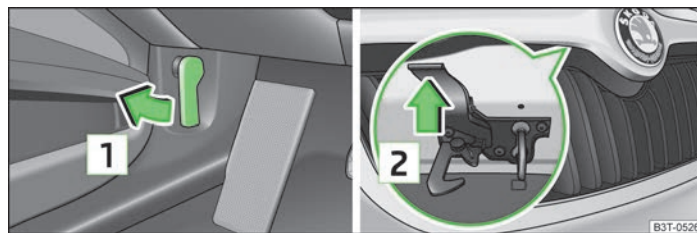

Fig. 156 Bonnet/radiator grille release lever: Release lever
- Pull the release lever under the dash panel **1** » Fig. 156.
- Press the release lever in the direction of the arrow **2** » Fig. 156 and the bonnet is unlocked.